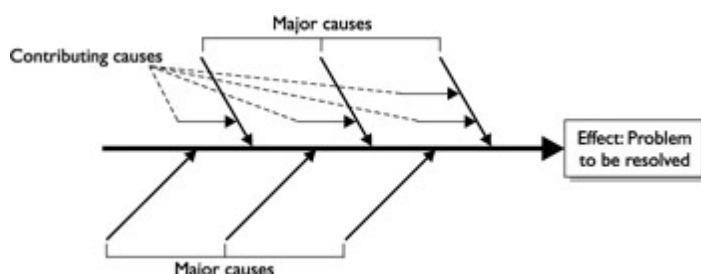

Figure 8-1: Cause-and-effect diagrams show the relation of variables to the quality problem.
- **Cause-and-effect diagrams** These diagrams show the relation between the variables within a process and how those relations may contribute to inadequate quality. This diagram can help organize both the process and team opinions, as well as generate discussion on finding a solution to ensure quality. Figure 8-1 is an example of a cause-and-effect diagram. These diagrams are also known as Ishikawa diagrams and fishbone diagrams.